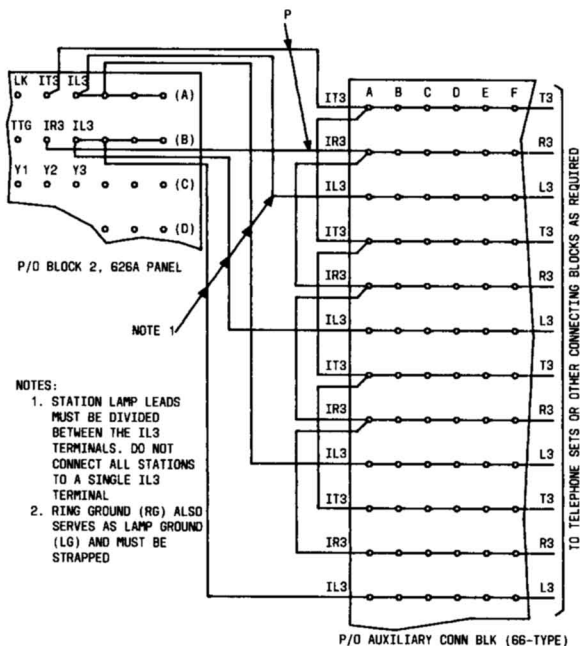

Fig. 5—Typical Arrangement for Connecting Stations to Third Intercom Path
2.05 The lower section of the 626A panel has two connecting blocks, light yellow in color, that contain 66-type quick-connect terminals (Fig. 4). These blocks are 20 terminals high by 10 terminals wide. The upper 4 horizontal rows of the connecting blocks contain power option and function terminals to interconnect the various intercom arrangements and optional features. The lower 16 horizontal rows of the connecting blocks provide the station cross-connect terminals for station codes and for the first- and second-path intercom stations. The third intercom path access circuit common leads are brought out on rows 1 and 2 of the second connecting block. Straps must be run to a separate 66-type connecting block (Fig. 5) for distribution to the third-path intercom station.
Stations can utilize both rotary and TOUCH-TONE dialing. Digits 1, 2, and 3 are used as transfer digits and are not available for station codes. Where the third intercom path is used, an external (66-type) connecting block (Fig. 5) is required to connect the common leads. Interrupted signaling is provided but single spurt signaling is available by applying option G.
Where a third intercom path is used, an external (66-type) connecting block (Fig. 5) is required to connect the common leads. Interrupted signaling is provided but single spurt signaling is available by applying option G.